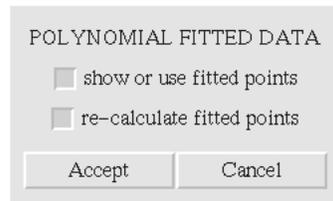
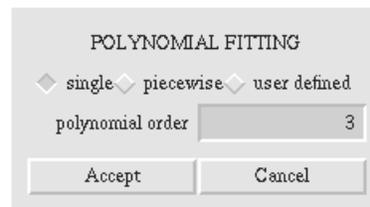

Figure 8.9. The **POLYNOMIAL FITTED DATA** dialog box.
Figure 8.10. The **POLYNOMIAL FITTING** dialog box.
- **display new/fitted front points** allows the user to redisplay the determined crack front points or the fitted crack front points. A dialog box, Figure 8.9, presents the option of showing either set of points. If the fitted points are to be shown and they have not been calculated or are to be re-calculated, another dialog is presented. This dialog box is not presented for internal crack fronts; in that case, a set of Hermitian polynomials of third order is used automatically. For surface crack fronts, polynomial fitting using a least squares approach is performed. A second dialog box, Figure 8.10, is presented to obtain the polynomial order and to allow the user the option of fitting the points with a single curve or with a set of curves. Note that a value of zero for the polynomial order, simply uses the determined points without any fitting. See Section 7.1.2 for a description of the dialog box options.